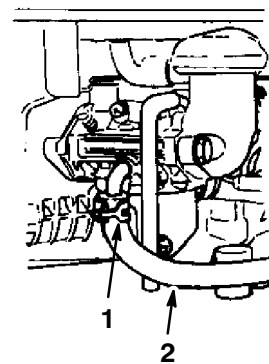

Figure 25
3. Remove the fuel tube by loosening the tube clamp at the carburetor (Fig. 25).